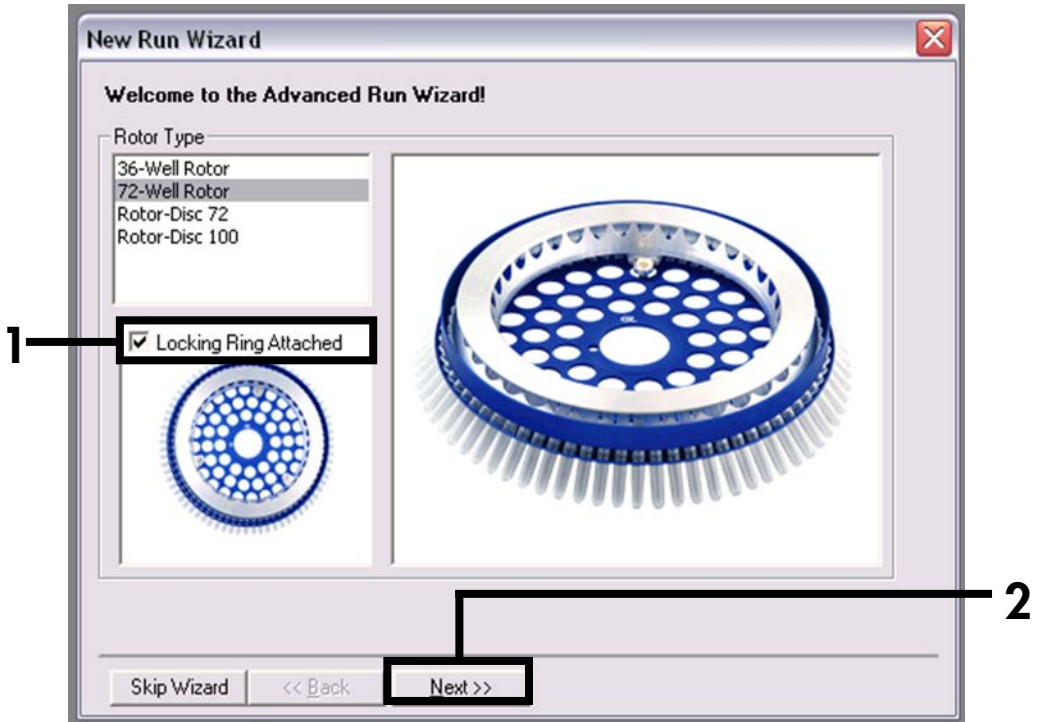
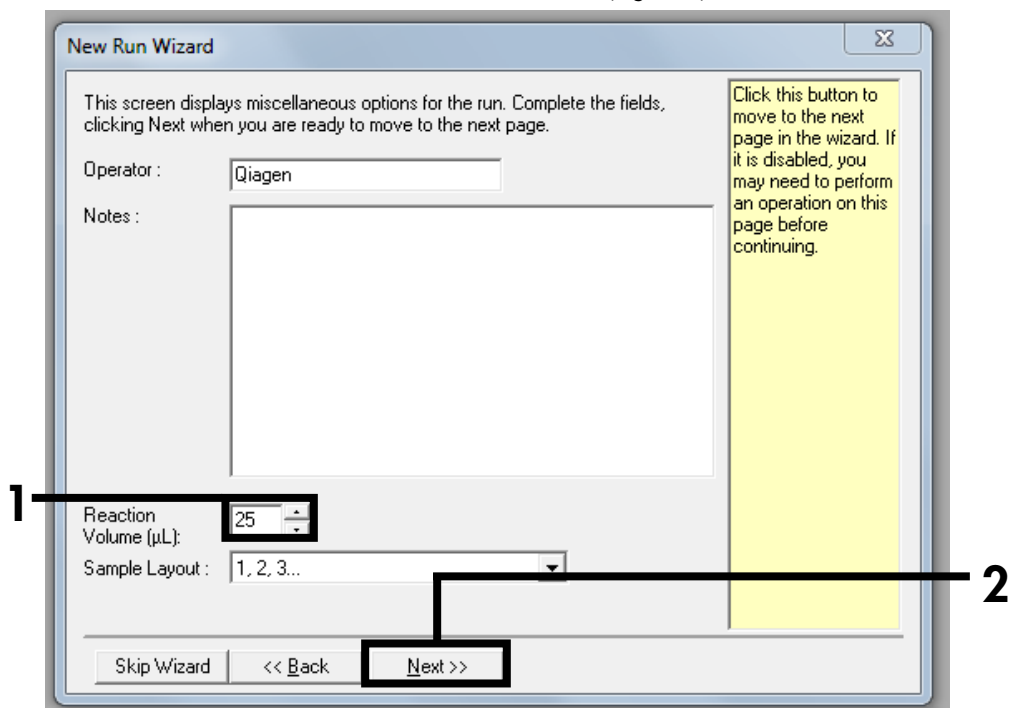

Figure 2. The “New Run Wizard” dialog box.
Figure 3. Setting the general assay parameters.
Setting the general assay parameters	Figure 2, Figure 3
7. First, open the “New Run Wizard” dialog box (**Figure 2**). Check the “Locking Ring Attached” box and click “Next”.
8. Select 25 for the reaction volume and click “Next” (Figure 3).